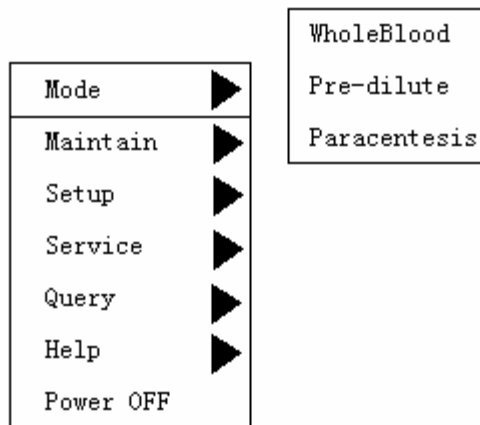

Figure 3-5
1. Get into "Pre-dilute" mode seen in Figure 3-5: